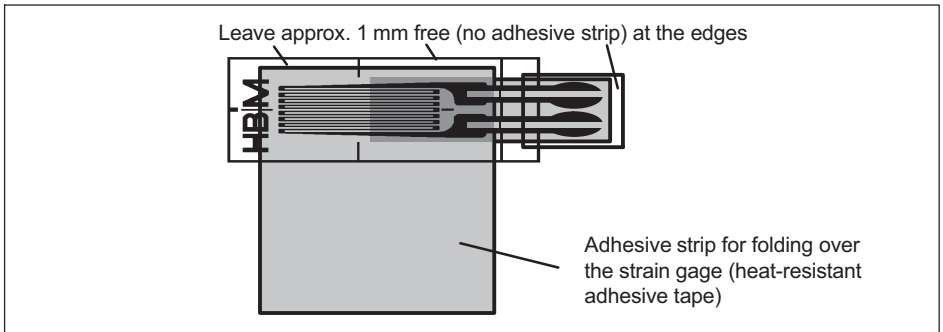

Fig. 5.2 Fixing the adhesive tape in place
- ▶ Gently pull off the adhesive tape on the opposite side of the strain gage to produce a hinge with which to lift the strain gage without changing its position. Any excess adhesive can escape through the sides of the strain gage that are not covered with an adhesive strip (Fig. 5.2).